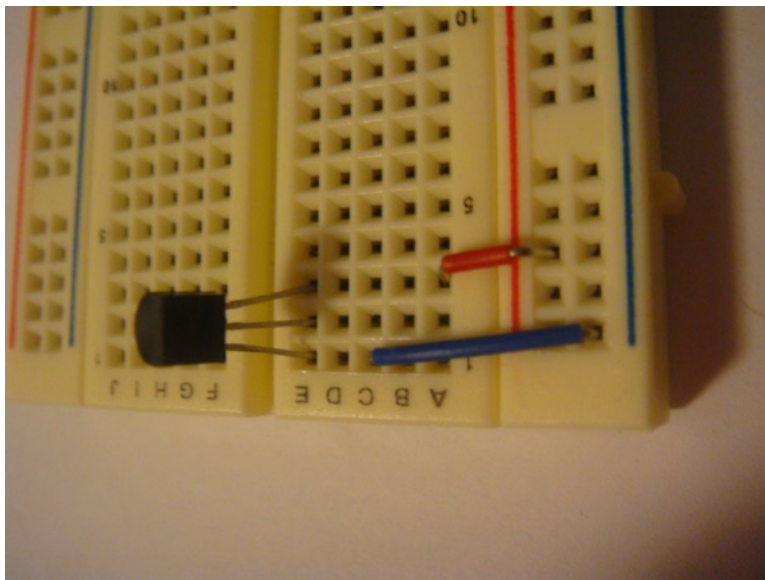

Figure 3-9. *Jumpers installed into the breadboard*
3. Breadboards make this type of prototyping work simple; they should be your second best friend (just don't let the data sheets know)! Next up, insert the jumper wire. In standard mode you need to feed the sensor power and provide a ground. So connect pin 1 to ground and connect pin 3 to your 3.3 V source. You can see how I have inserted my jumpers in Figure 3-9.